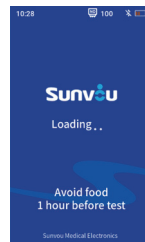

Figure2-1
- (1) Connect the breathing tube, Handpiece and power adapter with the device.
- (2) Press the power switch on the right side of the instrument for 5s until the display screen lights up. Then resource loading information appears on the display.
- (3) The instrument starts to initialize (Figure2-1), And display the precautions, please read carefully.